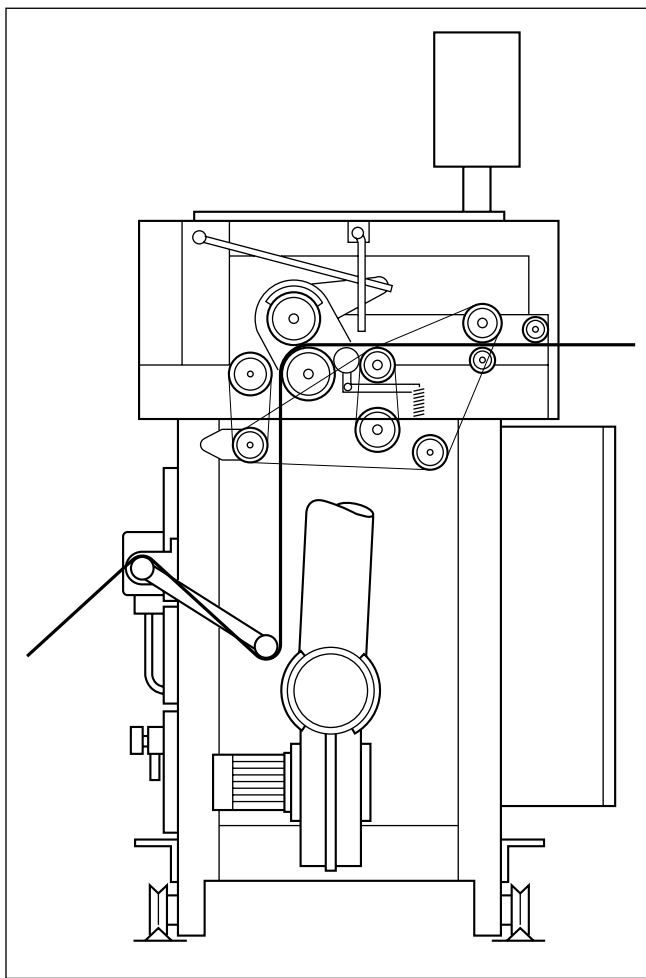

Fig. 12
- 3 Thread the web through the Flexcut as shown in fig. 12.